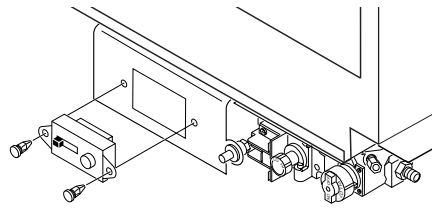

Figure 36 - Installing Remote Receiver
5. Place receiver into valve bracket and align holes (see Figure 36).